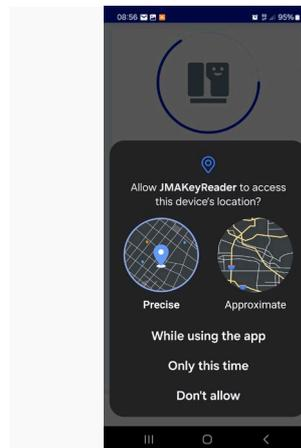

Fig. 10
1. It is important to allow the app to access location services as this lets it find the device (not allowing location services will mean the machine cannot be found in ad-hoc mode). See Fig. 10